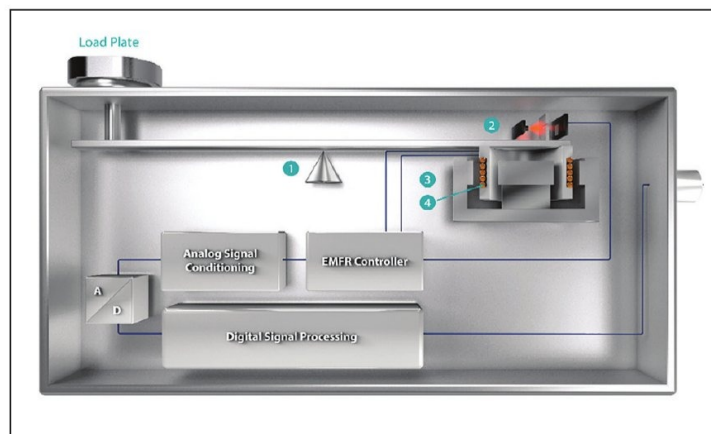

Figure 1 - Block diagram of an EMFR weigh cell
EMFR systems can be compared to a simple beam balance – though the intricacies are anything but. Incoming weight on the load plate causes the lever arm (1) in Figure 1 to leave its nominal resting position. The position detector (2) recognizes this slight position change and forces the coil (4) on the other side of the lever arm to move out of the magnet's field (3).